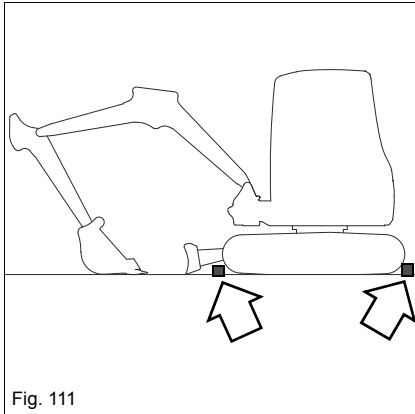

Fig. 111
9. Secure the tracks accordingly (for example with chocks, blocks) as shown in *Fig. 111*.